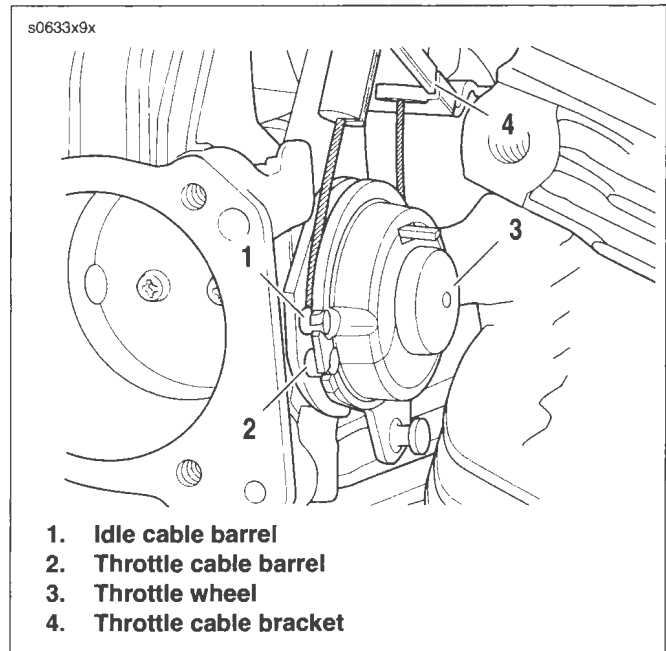

Figure 4-22. Throttle/Idle Cables
5. See Figure 4-22. Pull idle cable barrel (1) from upper hole in throttle wheel. Pull throttle cable barrel (2) from lower hole. Using slots, release idle and throttle cables from guides in throttle cable bracket.
4. See Figure 4-22. Install sleeve on throttle cable housing into cable guide at top of throttle cable bracket (4). Drawing throttle cable downward, fit barrel end (2) into lower hole in throttle wheel (3). Install sleeve and spring on idle cable housing into cable guide at bottom of throttle cable bracket inserting barrel end (1) into upper hole in throttle wheel.